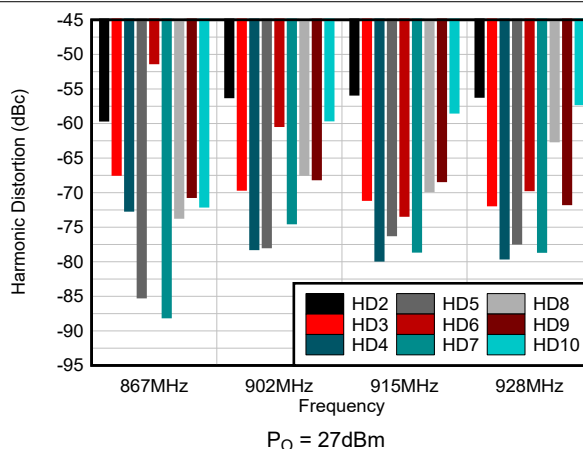

Figure 5-4. Harmonic Distortion Across Frequency
- (1) No external filter on ANT pin. Refer to Figure 5-4 for higher order harmonic performance.
(2) Sum of currents into the VCC_PA and VCC pins.